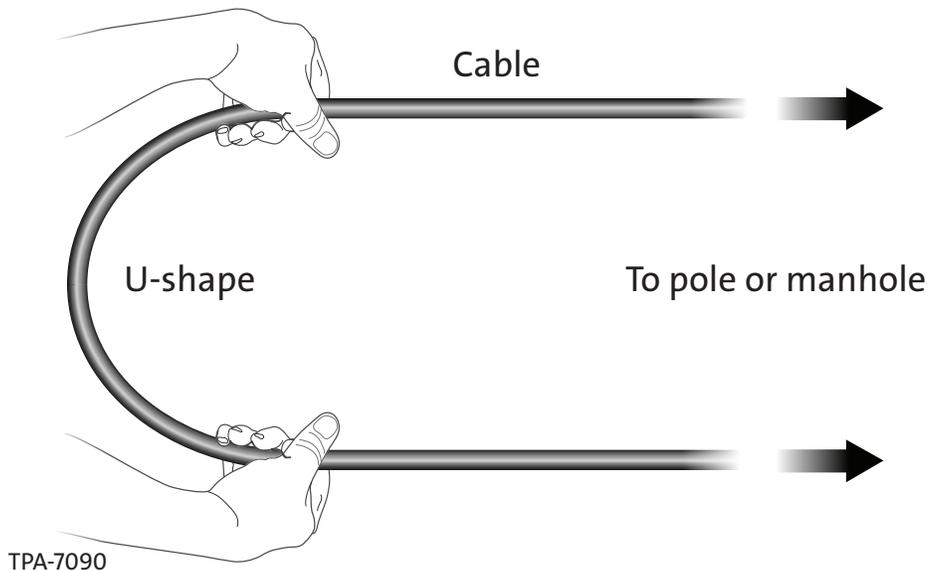

Figure 2
**Step 1:** Pull the cable slack out into a U-shape (Figure 2).